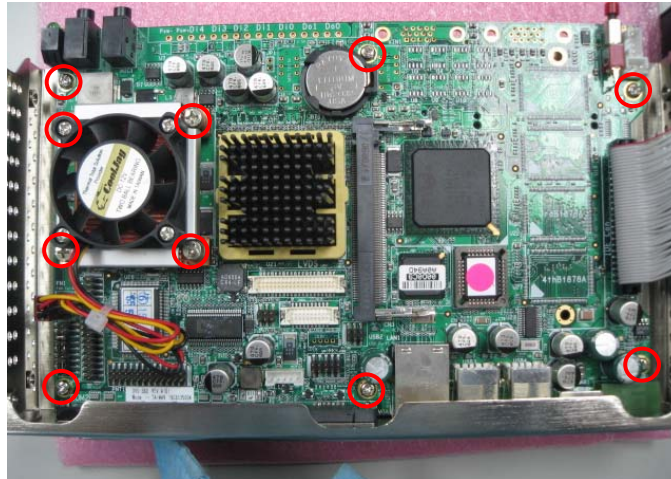

Figure 3.4: The bottom inside of DSA-3400
4. Unscrew the 10 screws from mother board to the bottom.(refer the *Figure 3.4: The bottom inside of DSA-3400*)
2. Unscrew the 4 screws on HDD mounting top cover of the DSA-3400(refer *Figure 3.4: The Hard Disc of DSA-3400*)